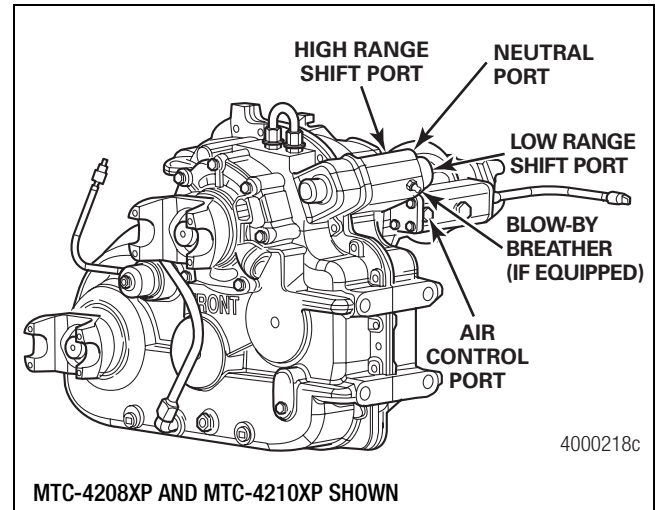

Figure 6.47
4. Apply 60 psi (4.14 bar) or greater of air pressure to the high-range shaft air port. Figure 6.47.
7. Apply 60 psi (4.14 bar) or greater of air pressure to the low-range shaft cylinder air port. Figure 6.47.
10. For PTO-equipped cases, apply 60 psi (4.14 bar) or greater of air pressure to the neutral shift location. Figure 6.47.